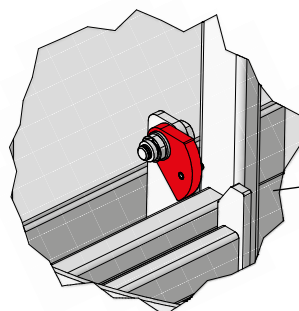

Fig. 62.4 Detail
3. Hang the pre-assembled ladder onto the access platform. Make sure the safety flaps are completely engaged (Fig. 62.4 Detail).